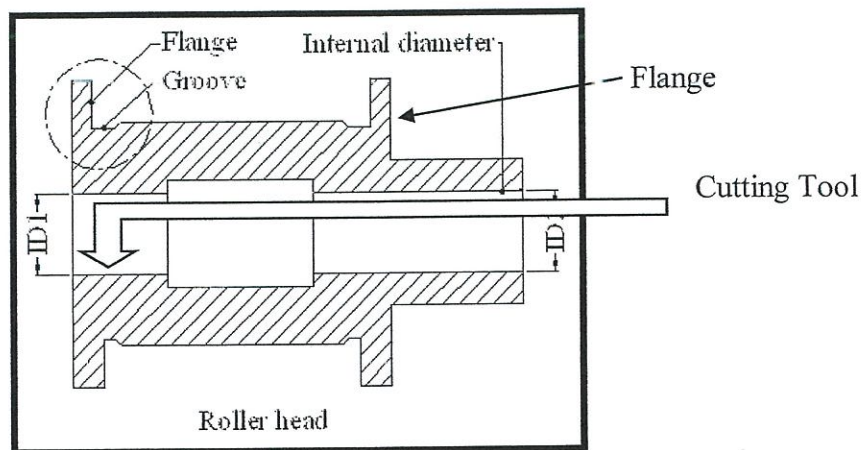

FIGURE Q2 Turning process
- (d) State **FOUR (4)** advantages when applying Digital Manufacturing technology in manufacturing. (4 marks)
- Q2** (a) **Figure Q2** shows a cylindrical shape workpiece is manufactured using turning process. The flange of the workpiece is clamped at the machine chuck using an automation device. Using schematic diagram, propose graphical simulation for the following process error or disturbance. Support your answer with the graphical data streams for diameters ID1 and ID2.